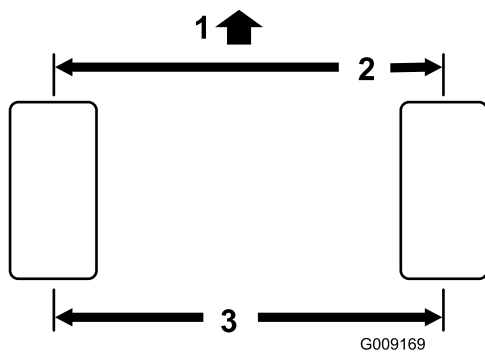

Figure 53
2. Measure the center-to-center distance (at axle height) at the front and rear of the steering tires (Figure 53).